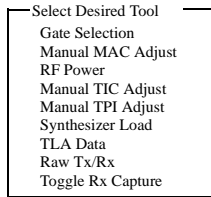

Figure B-4 HARDWARE>TOOLS
4. In the popup box, select Raw Tx/Rx and press Enter (see Figure B-4).